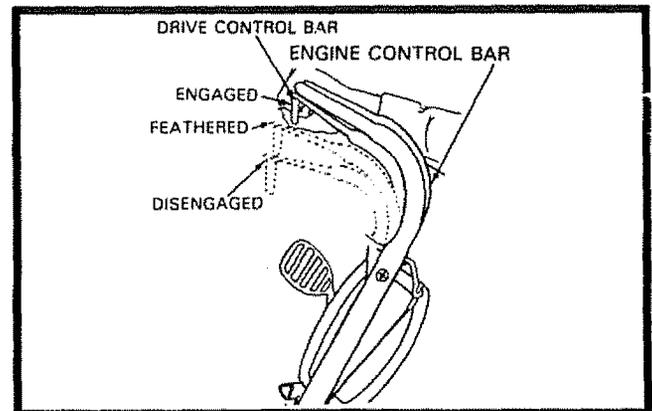

FIG. 8
- To start forward motion, slowly pull up Drive Control Bar to the Handle (See Fig. 8).
- To stop forward motion release Drive Control Bar (See Fig. 8).
- By slightly releasing the Drive Control Bar, the Drive can be slowed or "feathered" so you may make turns around obstacles or at end of rows (See Fig. 8).